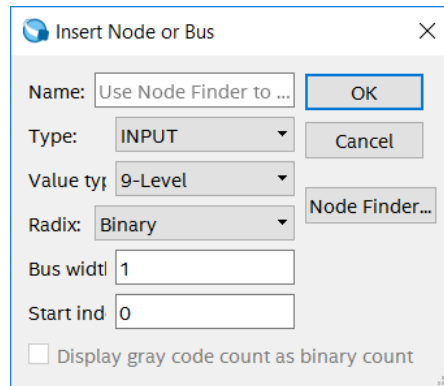
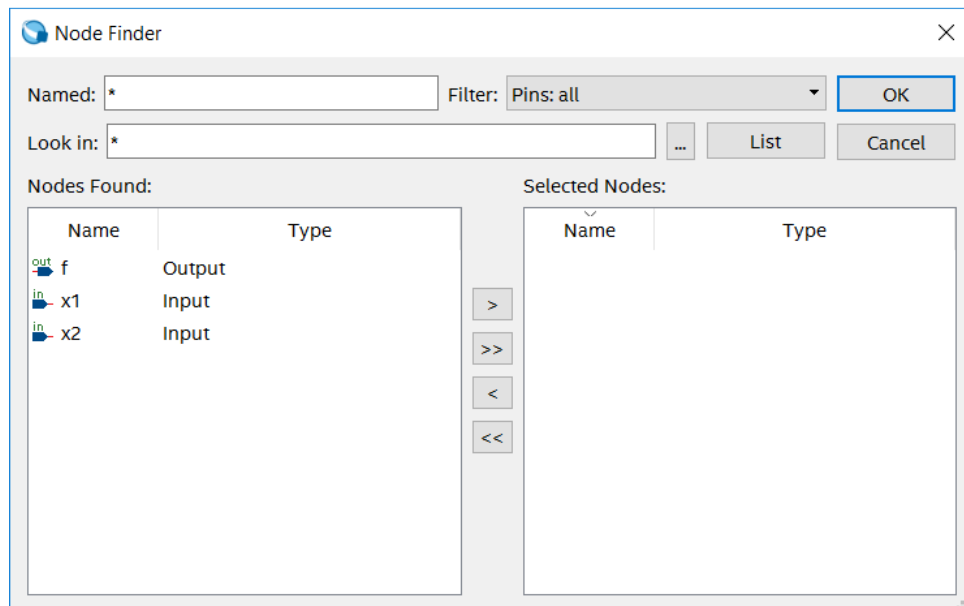
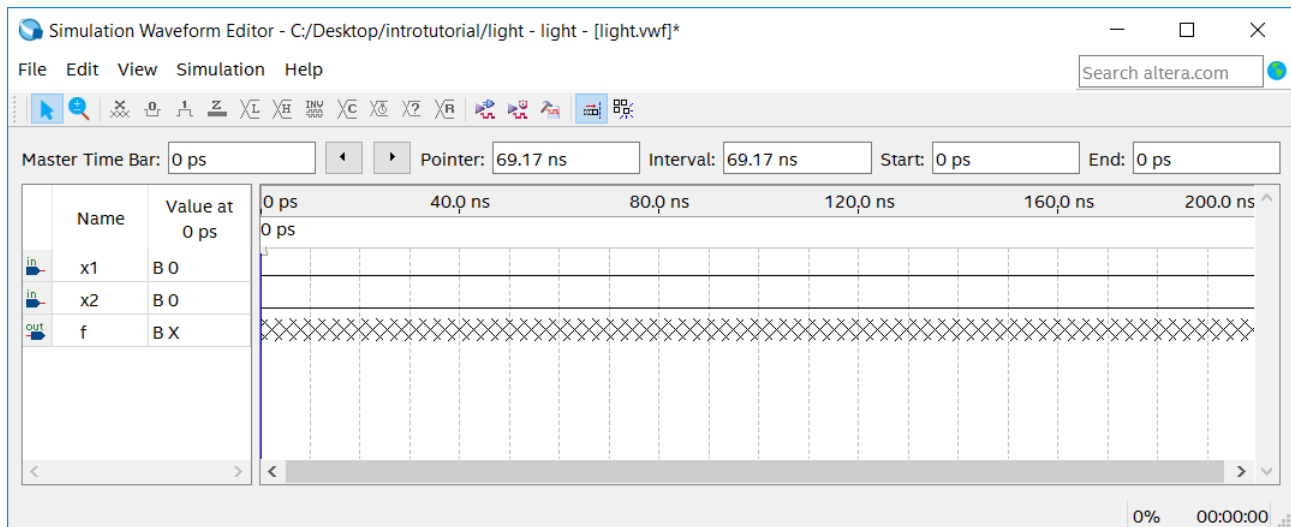

Figure 35. The Insert Node or Bus dialogue.
Figure 36. Selecting nodes to insert into the Waveform Editor.
Figure 37. The nodes needed for simulation.
- Next, we want to include the input and output nodes of the circuit to be simulated. Click **Edit > Insert > Insert Node or Bus** to open the window in Figure 35. It is possible to type the name of a signal (pin) into the Name box, or use the Node Finder to search your project for the signals. Click on the button labeled **Node Finder** to open the window in Figure 36. The Node Finder utility has a filter used to indicate what type of
Click on the *x1* signal in the Nodes Found box in Figure 36, and then click the > sign to add it to the Selected Nodes box on the right side of the figure. Do the same for *x2* and *f*. Click OK to close the Node Finder window, and then click OK in the window of Figure 35. This leaves a fully displayed Waveform Editor window, as shown in Figure 37. If you did not select the nodes in the same order as displayed in Figure 37, it is possible to rearrange them. To move a waveform up or down in the Waveform Editor window, click within the node's row (i.e. on its name, icon, or value) and drag it up or down in the Waveform Editor.